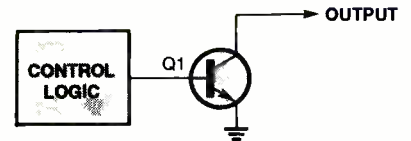

Fig. 5. An "open-collector" TTL output has a single grounded transistor, making it a very versatile output for driving loads or changing logic levels.
The open collector (OC) output is a lot simpler. As shown in Fig. 5, it still has the same control logic, but the output is nothing more than a transistor whose emitter is internally connected to the ground pin of the chip. The collector is the output. The only thing that an OC output can do is pull the output LOW. There's no way that it can go HIGH. It can only release its grasp on a LOW.